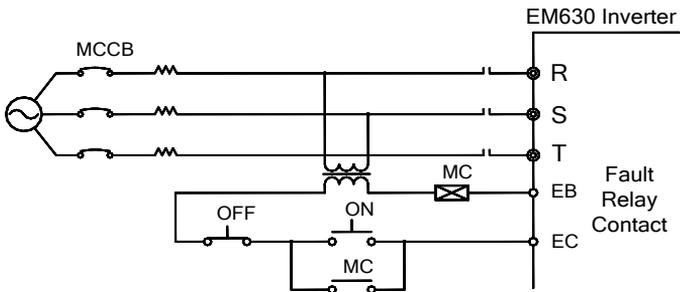

Figure 3-5 Connecting to Input Circuit Breaker
- When MCCB is used with multiple inverters or other devices, please connect the contact of the fault output relay to power contactor coil, so that the power supply will be turned off by a fault signal (Figure 3-5).